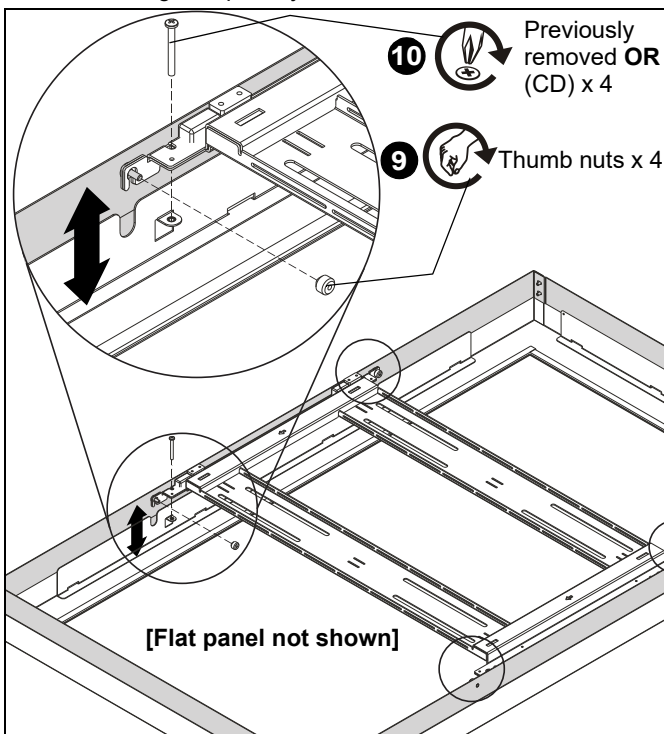

Figure 8
NOTE: The outer frame depth may be adjusted between 3" - 5" to make room for a variety of different flat panel thicknesses. (See Figure 8)
9. Tighten thumb nuts over threaded studs in four locations on the hinged frame. (See Figure 8)
10. Replace and fasten four Phillips screws which were removed in Step 1, **OR** replace the removed screws with four 10-24 x 2-3/4" Phillips head screws (CD) to allow for a larger depth adjustment of the outer frame. (See Figure 8)